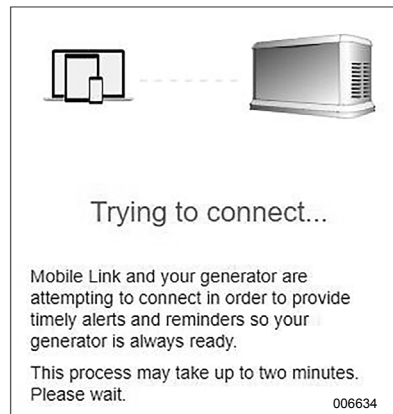

Figure 3-14. Establishing Server Connection
8. See Figure 3-14. The generator will attempt to connect to the server.